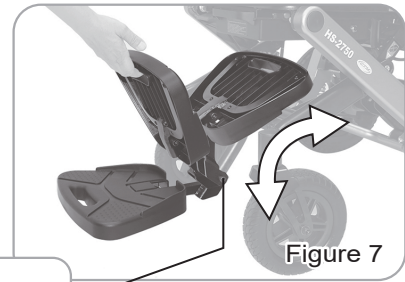

Figure 7
- Lift up footrest as arrows indicated to fold. (Fig. 7)